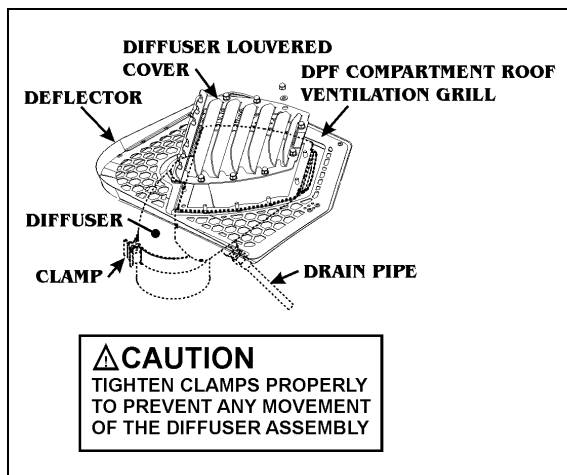
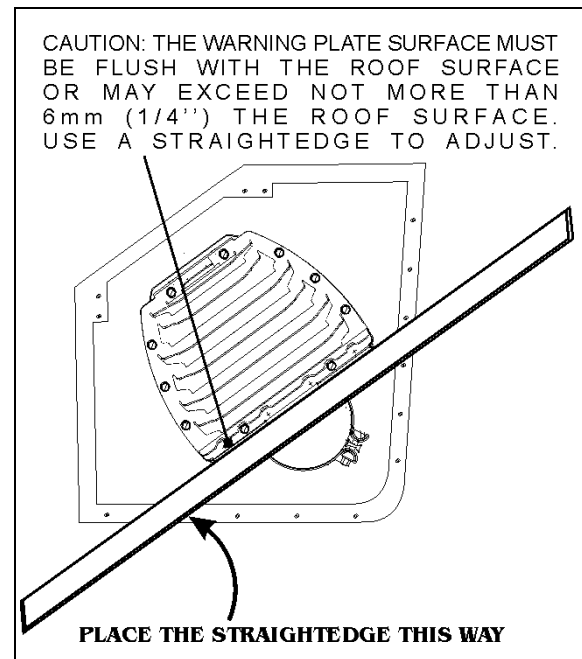

FIGURE 9: DIFFUSER ASSEMBLY 04014
FIGURE 11: DIFFUSER POSITION ADJUSTMENT 04015_2
3. Using a straightedge, adjust the diffuser assembly level. The top surface of the warning plate fixed on the diffuser louvered cover must be flush with the roof surface (fig.9). It may exceed about 1/4in (6mm). Place the straightedge as shown on figure 11.